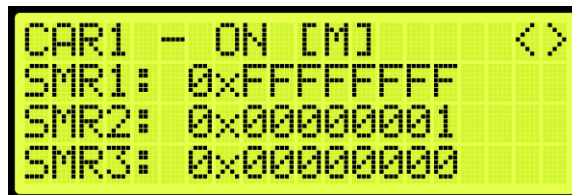

Figure 369: Rear Security Map Status
7. From the Rear Security Map Status (See Figure 369), press the right button.